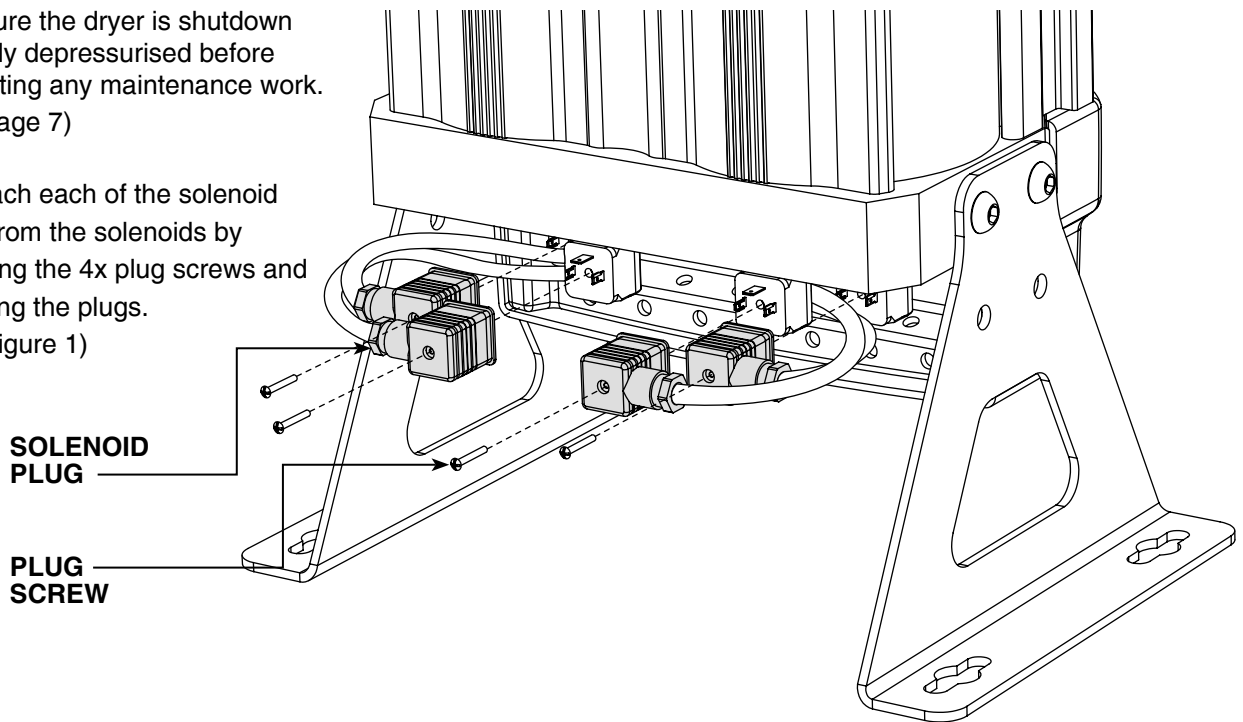

Figure 1.
2. Detach each of the solenoid plugs from the solenoids by removing the 4x plug screws and releasing the plugs. (See Figure 1)